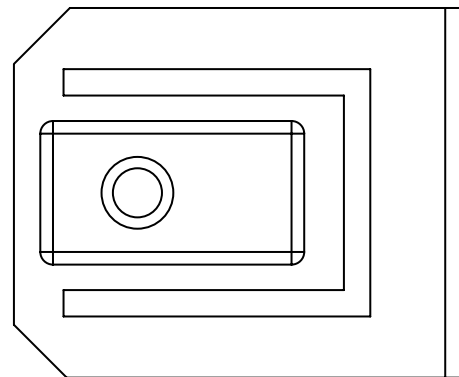

Figure 3-1. Service Switch
1. Open the door and pull the SERVICE button (*Figure 3-1*) out to the SERVICE position. The phonograph display will read * SERVICE MODE *.
2. Pull the SERVICE switch out to the SERVICE position (refer to *Figure 3-1*).